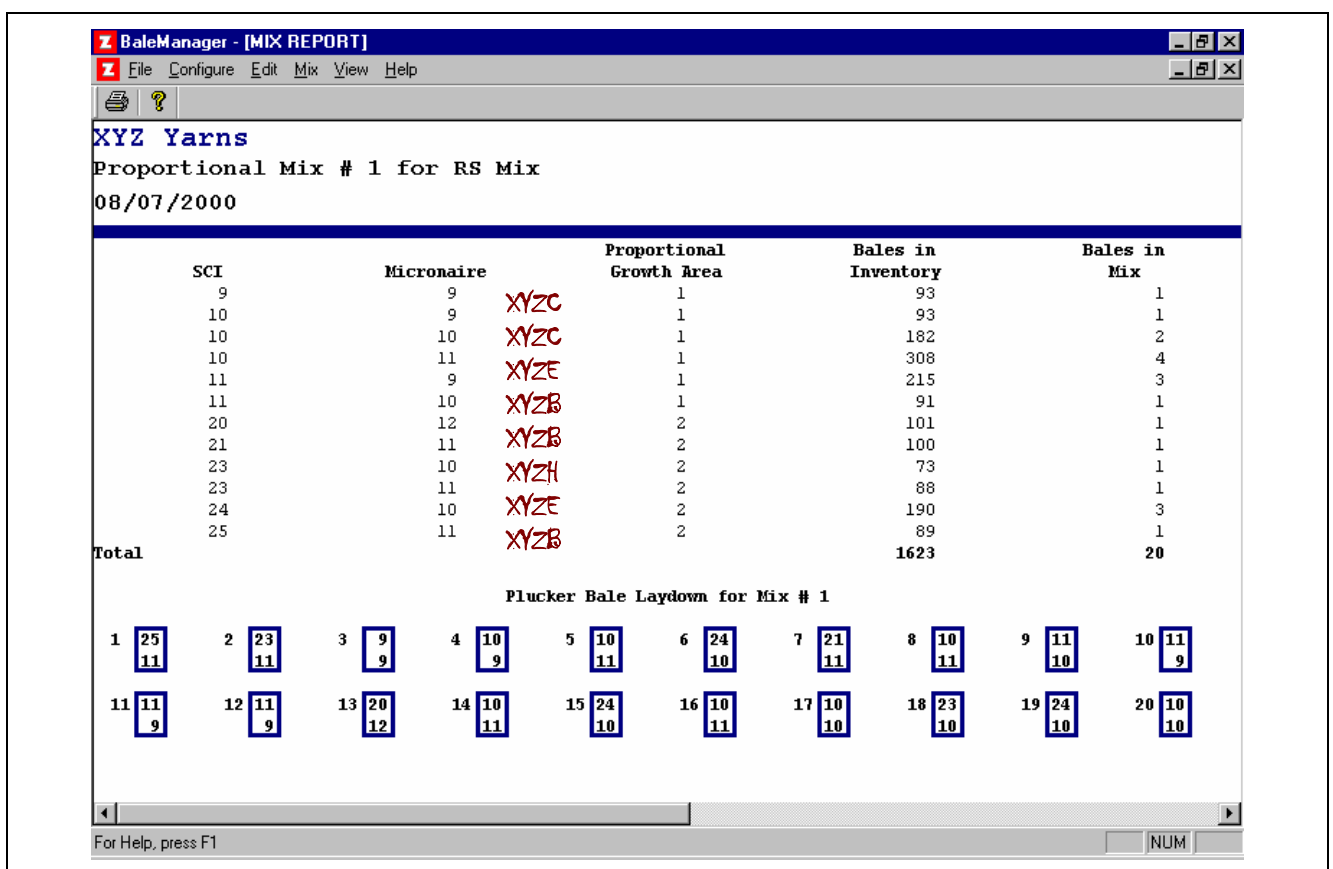

Fig. 6-88 Mix Report Screen – Added Lot IDs
According to the listed Category numbers, refer to the Bale Inventory prints made in steps 26.0 to 26.1 above, and with pen or pencil, make a list of Lot ID's from which bales will be selected and taken from the warehouse (similar to Fig. 6-88).
27.5 When the Bale Manager – (Mix Report) of Fig. 6-88 is returned, indicating that bales have been removed from the warehouse, select Mix in the Bale Manager window of Fig. 6-58, then select Preview/Accept to see the Preview/Accept Mix window. Use the pull down arrow to select 1-RSMIX (Fig. 6-89).
For instance (see Fig. 6-88), one bale of category 9-9-1 had been selected form Lot ID XYZC. The Bale Inventory print of Lot XYZC shows Bale ID 186 can be declared removed from Warehouse and used for entry into the Preview/Accept A Mix window.